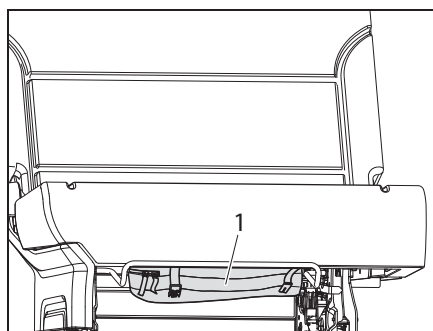

Fig. 97 On-board tool set bag below the bench seat
- ▷ The tool for the tyre change is located in the on-board tool set bag (Fig. 97,1) below the bench seat.